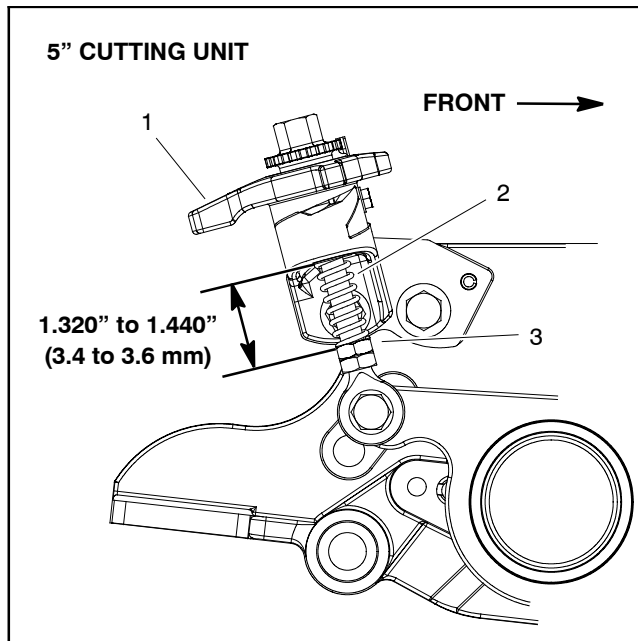
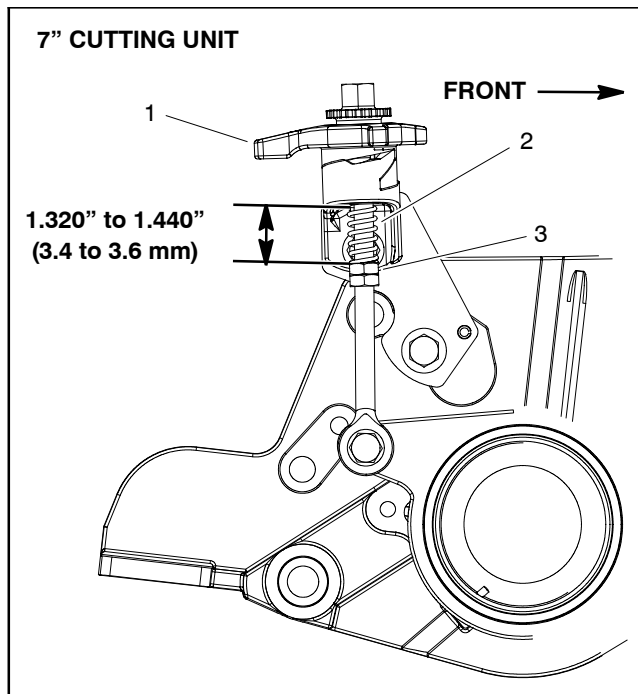

Figure 19
Figure 20
A. If bushing (item 10) was removed from upper ramp, press new bushing into housing fully to the shoulder in the bore.
B. If jam nuts (item 4) were removed from ball joint rod, apply antiseize lubricant to threads of rod where jam nuts will be positioned. Install jam nuts so that distance from top of ball joint rod to bottom of lower nut is from **3.190" to 3.310" (8.1 to 8.4 cm)**.
C. Apply antiseize lubricant to threads of ball joint rod before installing groomer adjuster (item 12) onto rod.
D. If detent spring (item 13) was removed, secure detent spring to upper ramp with washer head screw. Torque screw from **30 to 40 in-lb (3.4 to 4.5 N-m)**.
4. After groomer height has been adjusted, adjust location of jam nuts so compression spring length is from **1.320" to 1.440" (3.4 to 3.6 mm)** when the groomer handle is in the disengaged position (handle toward rear of cutting unit) (shown in Fig. 19 For 5" cutting unit and Fig. 20 For 7" cutting unit).